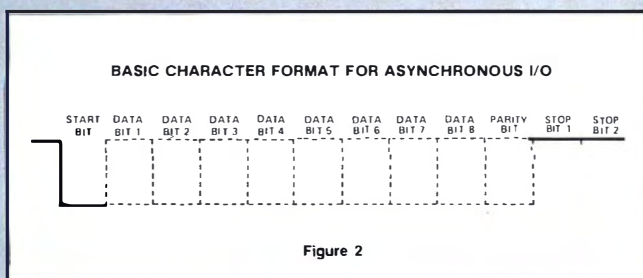

Figure 2
**ASYNCHRONOUS SERIAL COMMUNICATIONS PORT:** In applications where a serial type of terminal (like a teletypewriter) must be connected to the microcomputer systems, the sense pin and flag pin can be used to interface with the terminal. The basic character format for asynchronous serial I/O is shown in Figure 2.